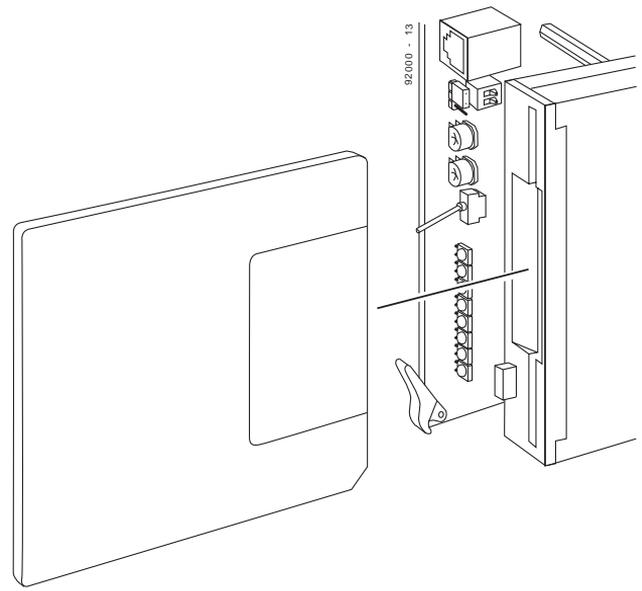

Figure 2-6 INSTALLING THE SYSTEM DISK
- 6. Insert the software disk into the disk drive (Figure 2-6).